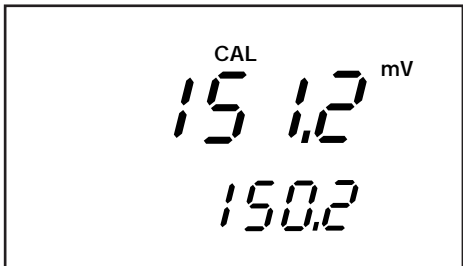

Figure 25
3. Press the **▲** or **▼** keys to enter the relative mV value that matches your desired reading. —See Figure 25.